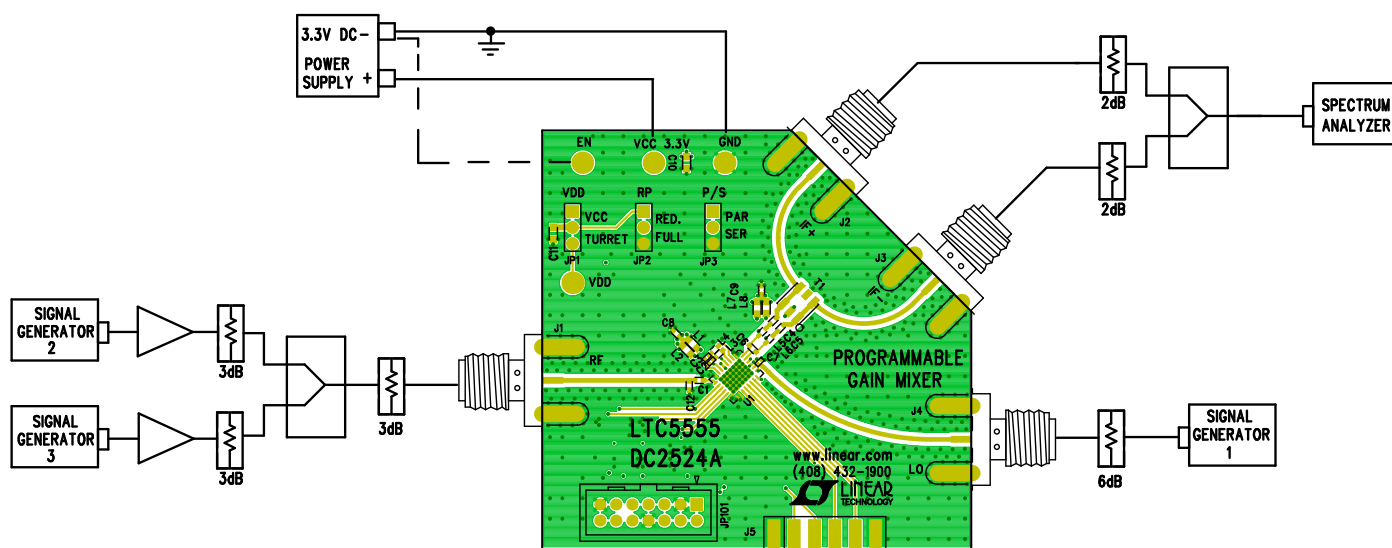

Figure 2. Test Setup for 2-Tone Measurement
3. Connect all test equipment as shown in Figure 2.